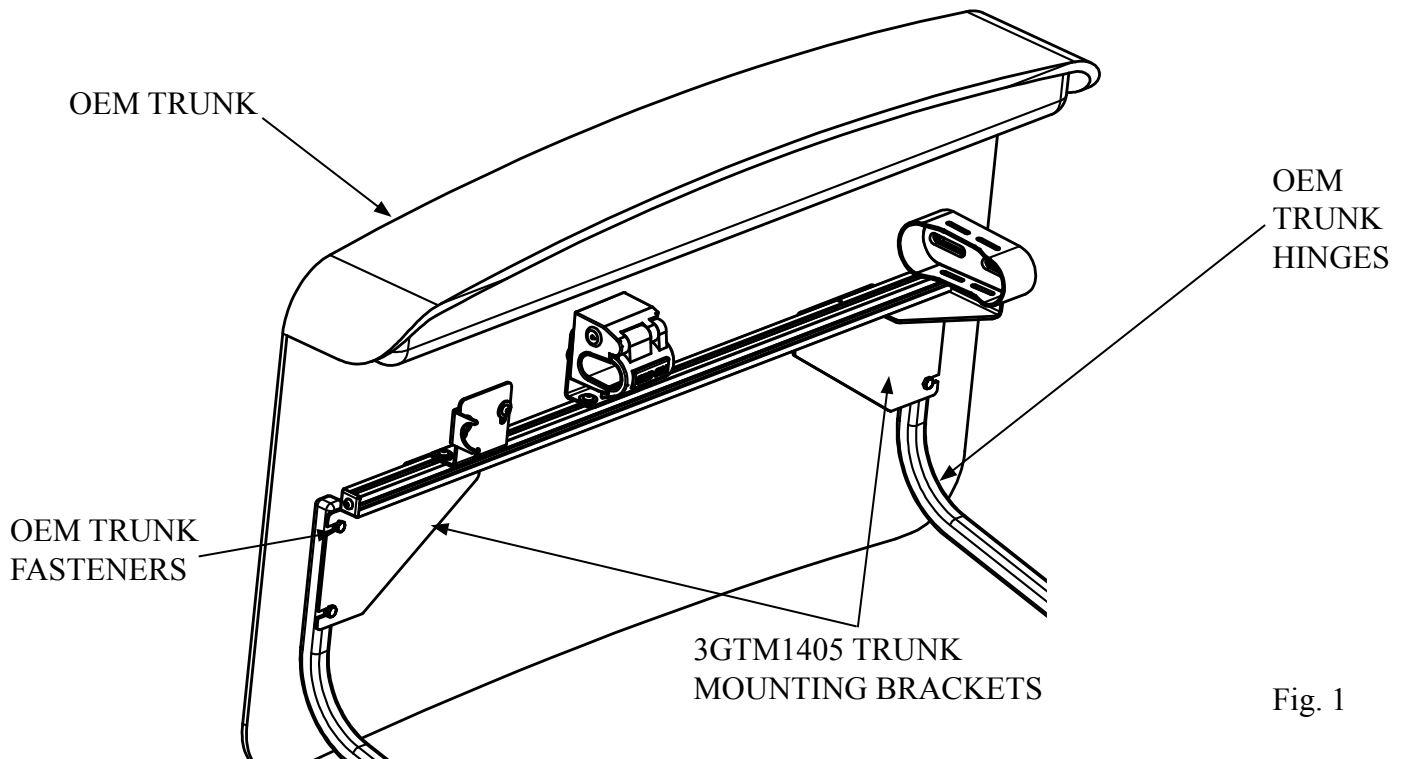

Fig. 1
- A. Open the trunk of the vehicle and locate the 4 OEM 13mm fasteners securing the trunk to the hinges. Loosen the OEM fasteners on the left side only enough to slide the bracket underneath, then tighten securely before moving onto the right side. Repeat on the other side after the first bracket is securely in place. Remove the end cap from the rack, and slide the rack onto the the "T" nuts that are already attached to the brackets until the rack is centered with the trunk lid. Tighten the "T" nuts securely with an allen wrench. (See Fig. 1)